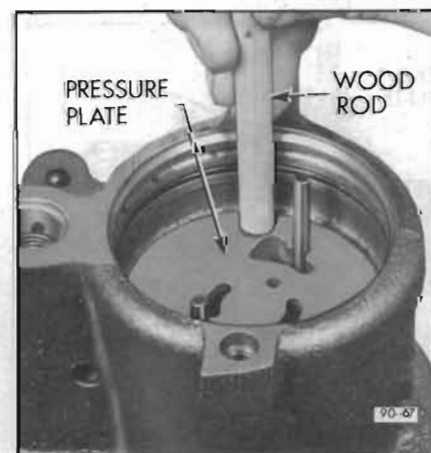

Figure 90-67—Seating Pressure Plate in Housing
9. Lubricate the outside diameter and chamfer of pressure plate with petroleum jelly and install on dowel pins with ported face toward pump ring. Dowel pins fit into slots in plate that are nearest outside diameter of plate. Use a soft plastic or wood rod and lightly tap around outside diameter of pressure plate to seat it. See Figure 90-67. Pressure plate will travel about 1/16" to seat. Never press or hammer on the center of pressure plate as this will cause permanent distortion and result in pump failure.